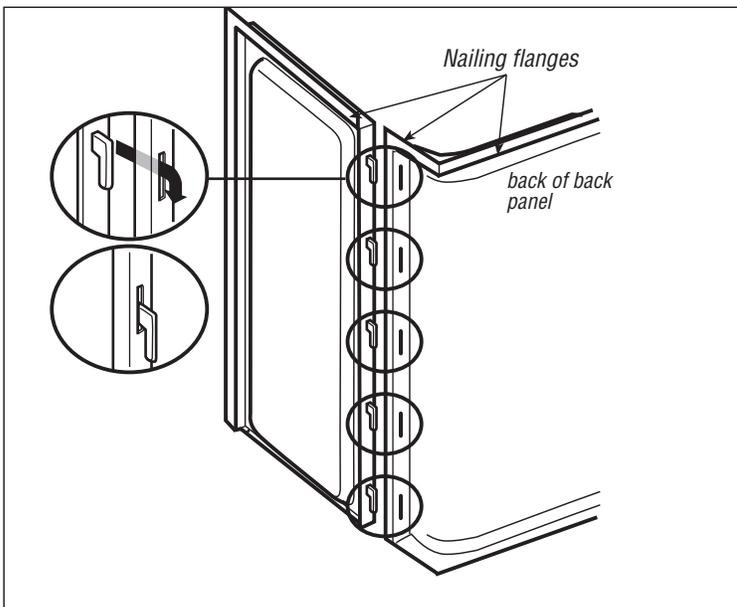

Figure 2
- 2** Dry fit the panels in the alcove. Position the back panel into the alcove (the tabs on the bottom go into the notches of the tub). **Note: When in position against the back wall studs, the front nailing flanges on the back panel must be straight and square with the bathtub (Figure 4).** Position each end panel so that the hooks of the end panel go into the slots on the back wall and then push down until panel tops are even (*Figure 2*). Horizontal nailing flanges will be located at the top of all three panels. Decide which side panel will need cutouts for plumbing fixtures. Carefully locate, mark and cut holes using the proper size hole saw. When all panels are properly set in the alcove, mark a pencil line along the top edge of all panels and front edge of end panels for reference when actually gluing in. Remove all panels.